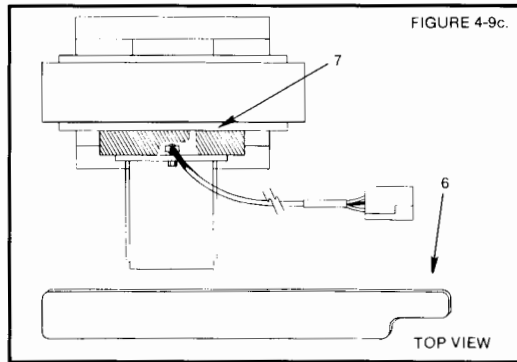

Figure 13. Top View
- k. Insert the shim (finger first) between the outer surface of the driver coil and the magnet assembly. Slide the shim clockwise until it surrounds the drive coil and the finger is directly behind the two drive coil terminals. Ensure that the shim surrounds the coil evenly when inserted. When the shim is inserted properly, it should appear as shown in figure 13.